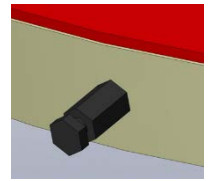

Fig. 2-6
Step 4 - If installing a ramp, place the ramp by locating the ramp shoulder bolt and placing it into the slot in the ramp. It is highly recommended to anchor the ramp to the floor. (See Fig. 2-6)